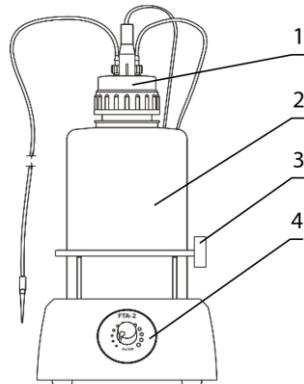

Figure 3. FTA-2i, FTA-U front view.
5.3. (For models **FTA-2i** & **FTA-U**) Regulate the aspiration intensity with the regulator knob on the front panel of the unit (fig. 3/4). Clockwise turning direction increases power, counter-clockwise – decreases. Current intensity is indicated by a light ring around the regulator knob.